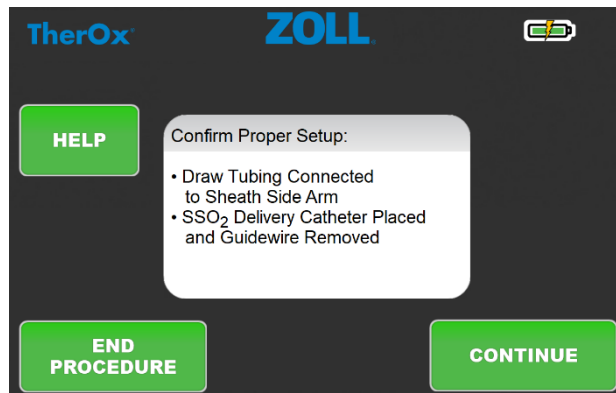

Figure 14. Proper Setup Confirmation Screen
- After the cartridge has been successfully prepped the screen shown in **Figure 14** appears prompting the operator to confirm the correct setup. If user message prompts to spike saline bag, ensure IV spike is fully inserted into saline bag, then press ‘CONTINUE’ to complete Prep.